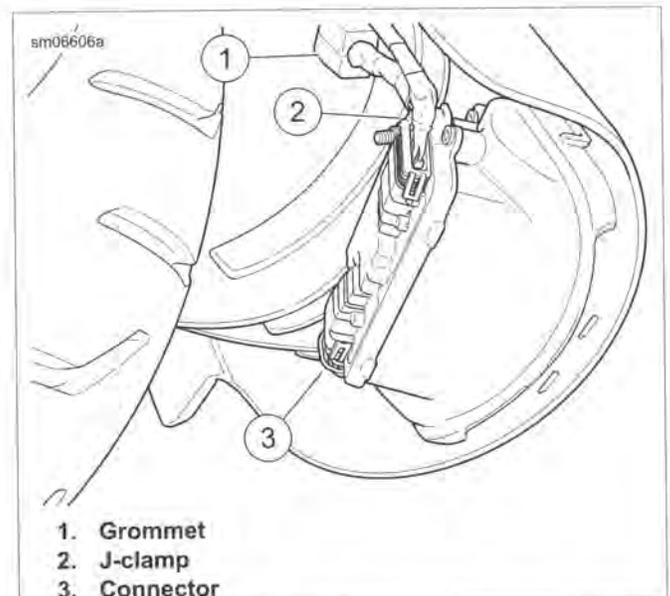

Figure 7-43. Rear Turn Signal Lights Connector (models without tail lamp)
- a. See Figure 7-43. Disconnect turn signal connector (3) from rear fascia lamp.
- b. Release harness from J-clamp (2) located above fascia lamp.
- c. Push grommet (1) rearward out of hole in fender.
- a. See Figure 7-43. Install connector (3).
- b. Secure harness in J-clamp (2) and under tab on end of fascia lamp.